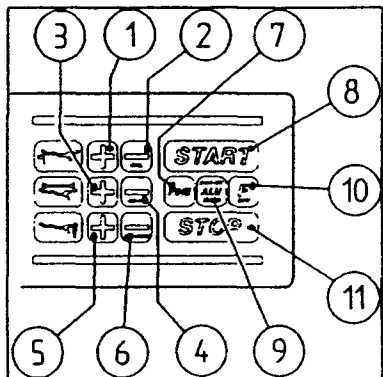
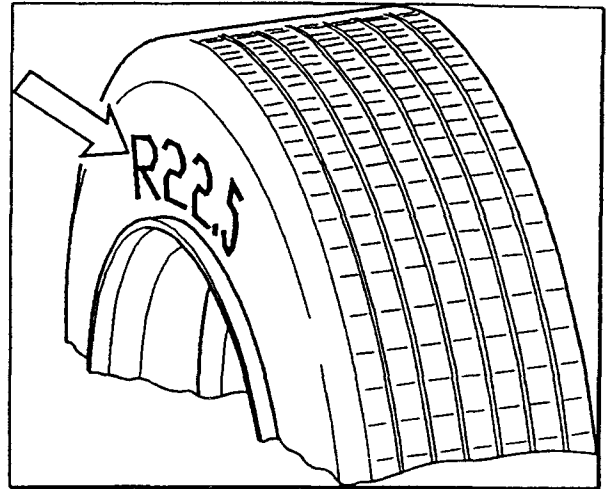

Fig.29
Fig.30
Press button #1 or #2 (Fig. 29) to enter rim offset.
B. Read the rim diameter, always marked on the side wall of the tire (Fig.30). Press button #5 or #6 (Fig. 29) to enter rim diameter.
D. Enter rim width with the appropriate buttons (#3 and #4 Fig.29).
E. To enter all data with an increased resolution press the button 'FINE' first (#7 Fig.29). Press the button again to restore the standard accuracy.
To select the different truck balancing programs press the button **ALU** (#9 Fig.29). The balancing programs available are :
To select the different auto balancing programs press the button **ALU** (#9 Fig.29). The balancing programs available are :